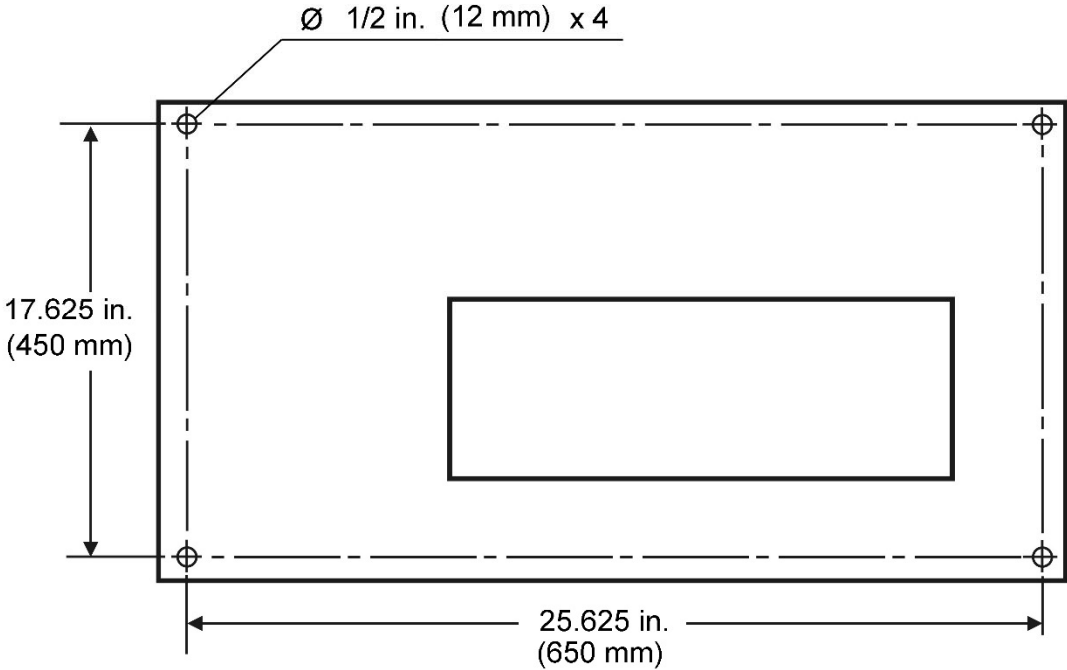

Figure 4-1
5. It is recommended that Notcher be bolted to floor, using lag screws or similar means. See mounting pattern, Figure 4.1.